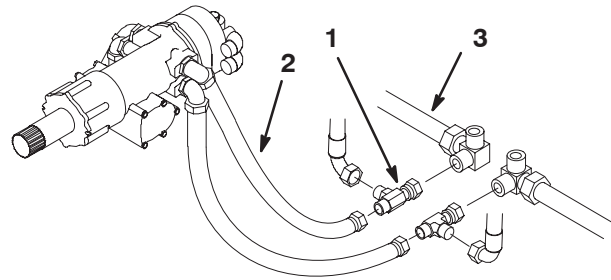

**Figure 9**
- 11.** Install two tee fittings to the bulkheads on the wing deck motor return lines on both sides of the unit (Fig. 9).